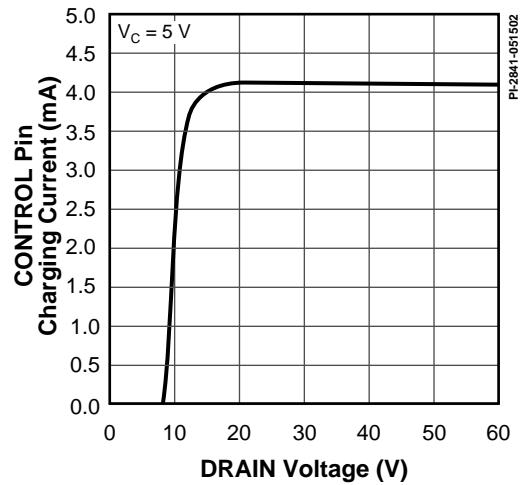

Figure 44. I_c vs. DRAIN Voltage.
- D. It is possible to start up and operate *DPA-Switch* at DRAIN voltages well below 16 V. However, the CONTROL pin charging current is reduced, which affects start-up time, auto-restart frequency, and auto-restart duty cycle. Refer to Figure 44, the characteristic graph on CONTROL pin charge current (I_C) vs. DRAIN voltage for low voltage operation characteristics.